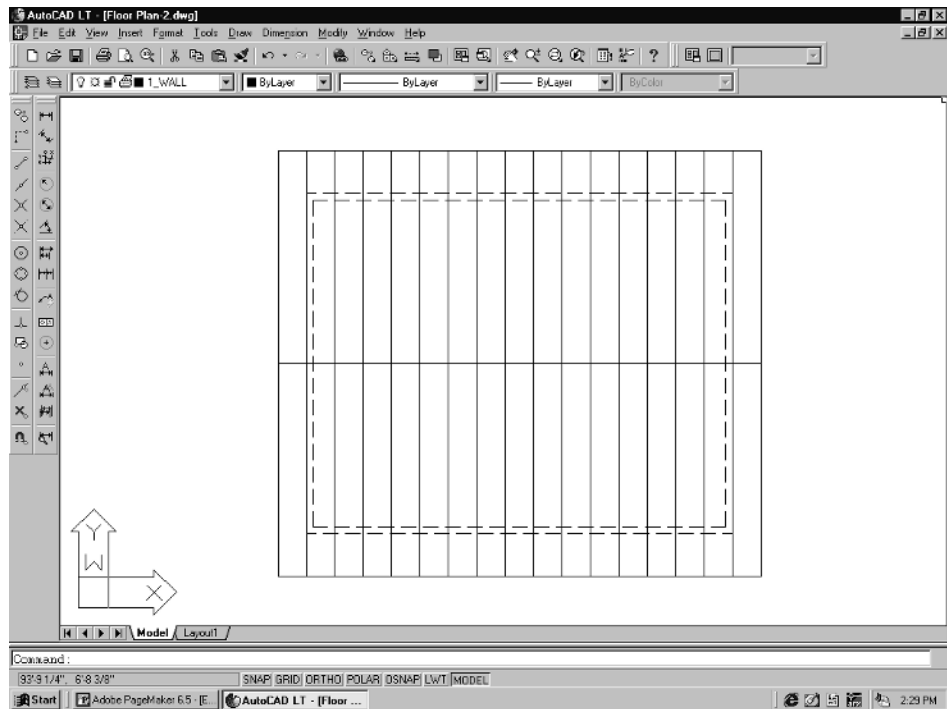

Figure 3-21
4. The *Select object* prompt will come up again. Pick the new line and pick to the right of it when prompted *Side to offset*. Keep offsetting the lines until you have all your rafters drawn, as in Figure 3-21.